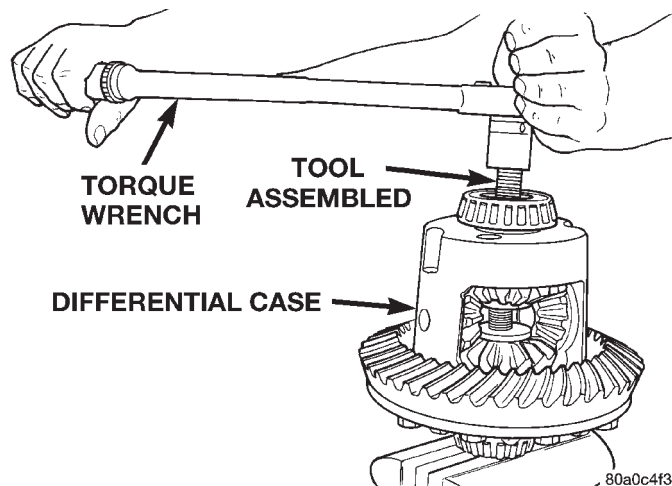

Fig. 48 Tighten Belleville Spring Compressor Tool
(9) Tighten forcing screw tool 122 N·m (90 ft. lbs.) (maximum) to compress Belleville springs in clutch packs (Fig. 48).